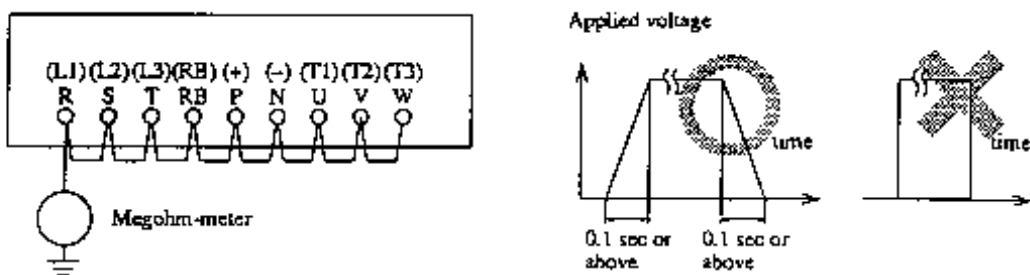

Figure 7-4 Insulation Resistance Tests and Withstand Voltage Tests
Make these measurements and tests by short-circuiting the terminals as shown in Figure 7-4, and by following the conditions described.
- Do not conduct withstand voltage tests for terminals other than those indicated in Figure 7-4.